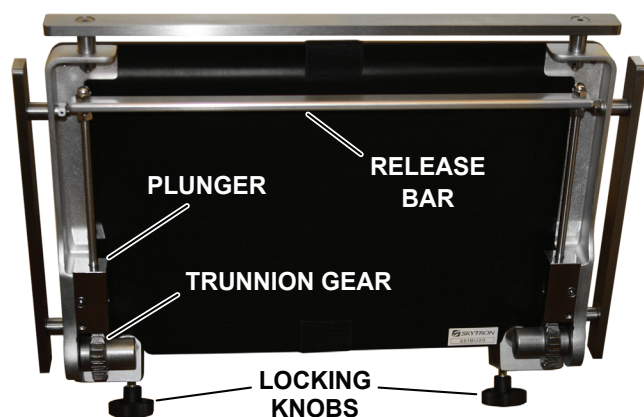

Figure 4-1. Head Section
1. Ensure both head section locking knobs are installed, they have full range of motion, and their threads are not stripped (Figure 4-1).